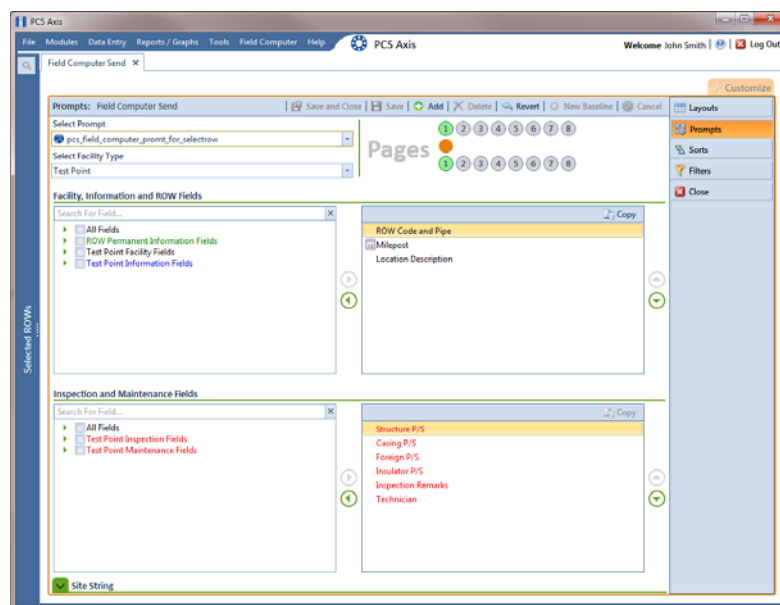

Figure 7-31. Prompts
- 4 Click the **Customize** tab , then the **Prompts** button  to open the *Prompts* page (Figure 7-31).